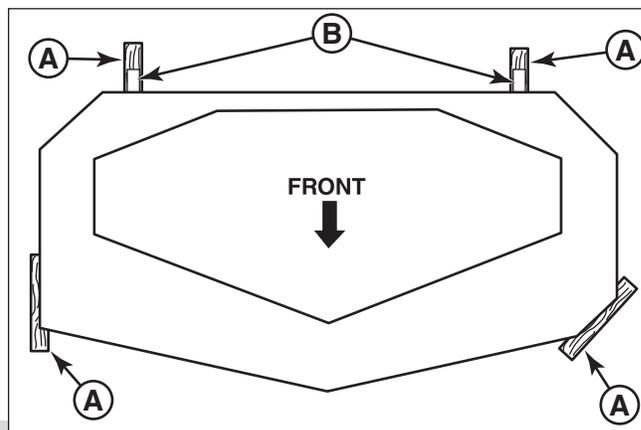

Figure 43. 2 x 4 and 1/4" Spacer Locations
2. Place 2 X 4 blocks (A, Figure 43) under each corner of the mower deck with the 3-1/2" sides being vertical. Place a 1/4" (0,64 cm) thick spacer (B) on the top of the rear blocks.